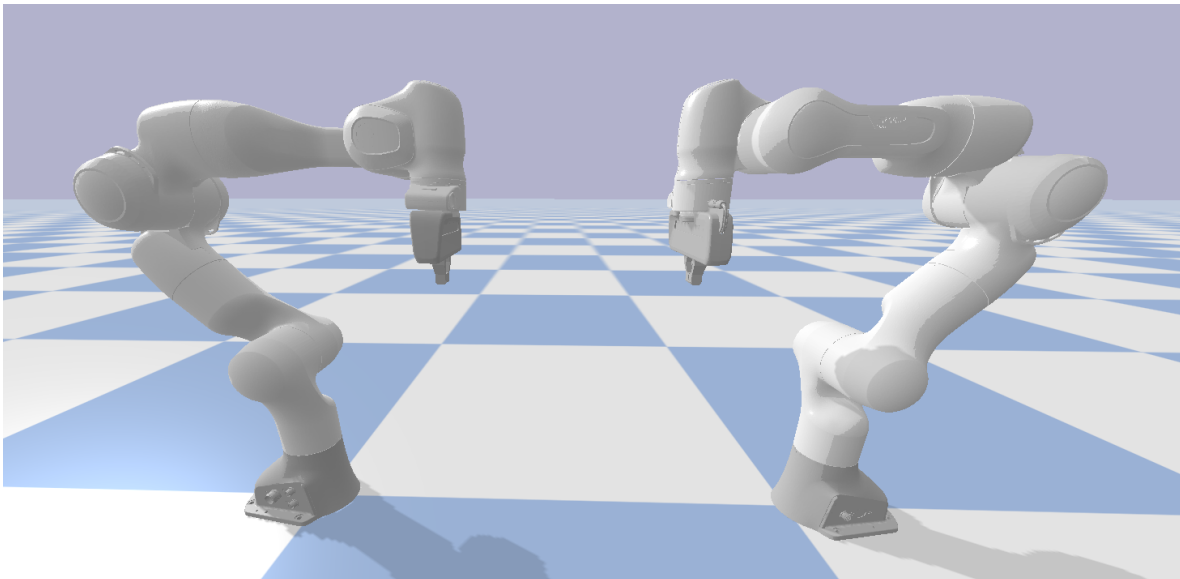

Figure 2: Left and Right Arm of the bimanual system
1. To complete this exercise, we need to define the frames that describe the system depicted in Figure 2, the objective is to obtain the complete kinematic chain of the bimanual system. First, define the transformation matrices between the world frame and the two end-effector frames. The transformations between the world and the base of each robot must be computed knowing that: